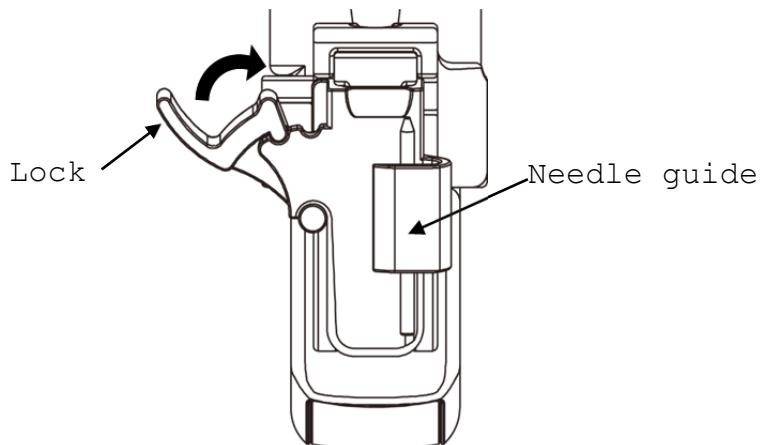

Fig. 10 Attaching the needle guide
- 2) Push the lock toward the bracket to secure the lock. Make sure the needle guide is firmly attached to the bracket. (See Fig. 10)